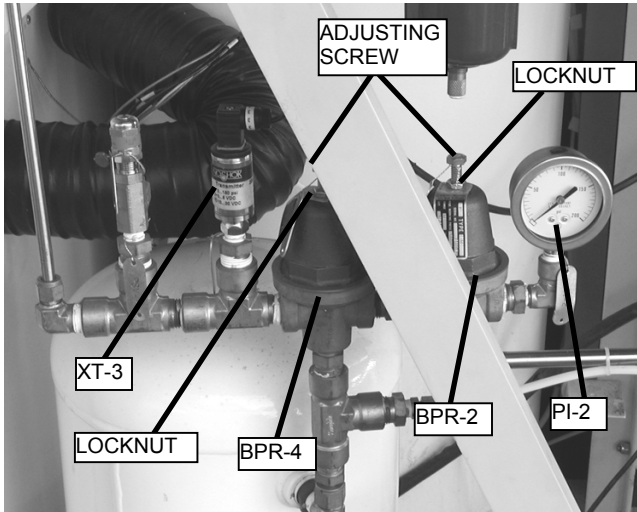

Figure 15. Scroll Compressor Pressure Regulators.
The scroll compressor maximum pressure regulator (BPR-2) should be adjusted to limit the discharge pressure to 108 psig (as indicated on PI-2). Use the following steps to adjust the regulator. Refer to Figure 15.
- Loosen the locknut on the adjusting screw of BPR-4 (see Figure 15).